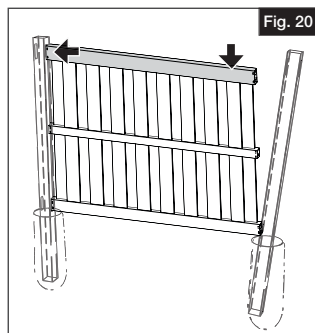

Fig. 20
- b. Insert the top rail into the first top hole post route then guide over top of boards (Fig. 20)